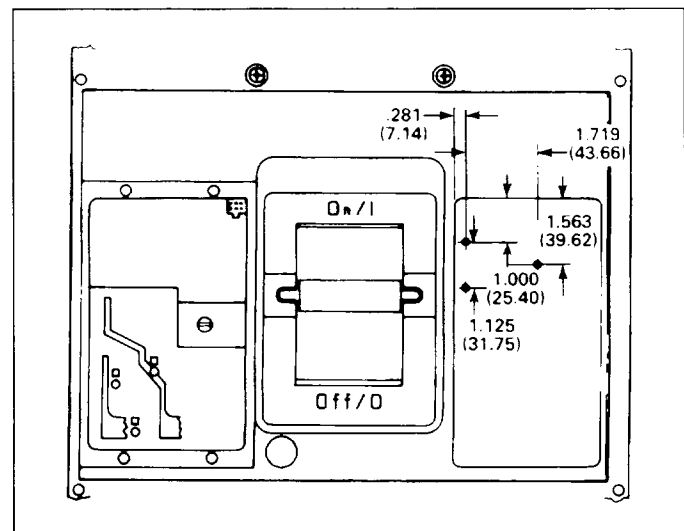

Fig. 2-1 Locating Mounting Holes
- 2-1. Locate the mounting holes in the cover under the nameplate (see Fig. 2-1).